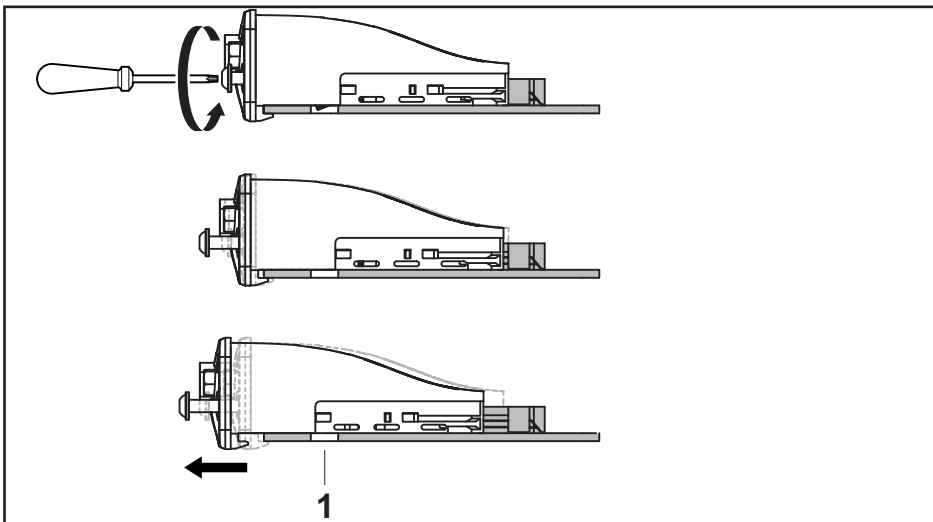

Fig. 5: Releasing the lock
2. Loosen the front torx screws. The IMdev interface module may only be removed once the lock has been completely released (see Fig. 5).